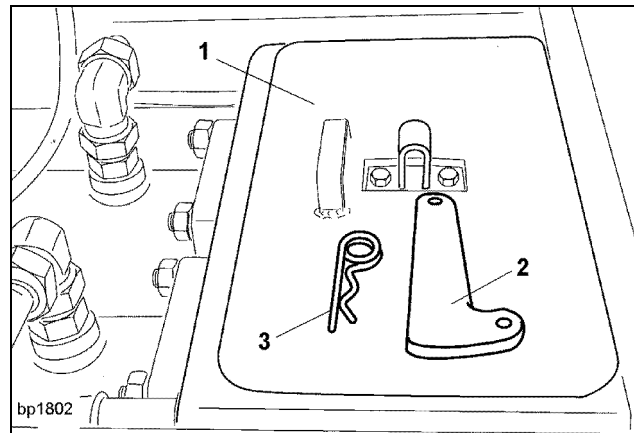

Fig. 3
- Monitor the water level and check for clogging of the water box (Fig. 3).